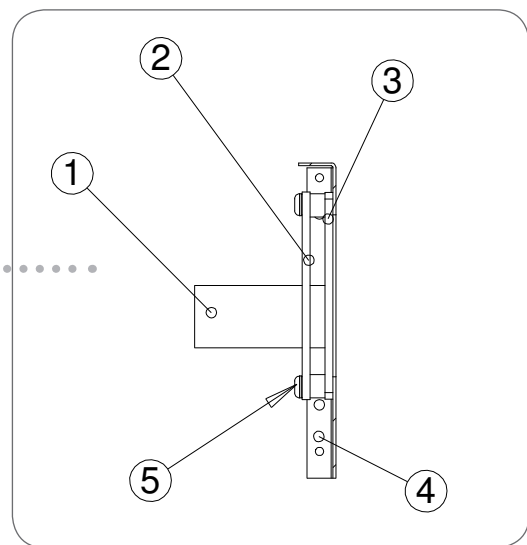

Fig. 2.10 Fastening insulator ends.
Install insulator ends (3) to the end of busbars (1). The insulator ends are fastened together with the busbar insulators (2) to the inside of the frame plate (4) using 5.5x25 mm plate screws (5), see Fig. 2.10.